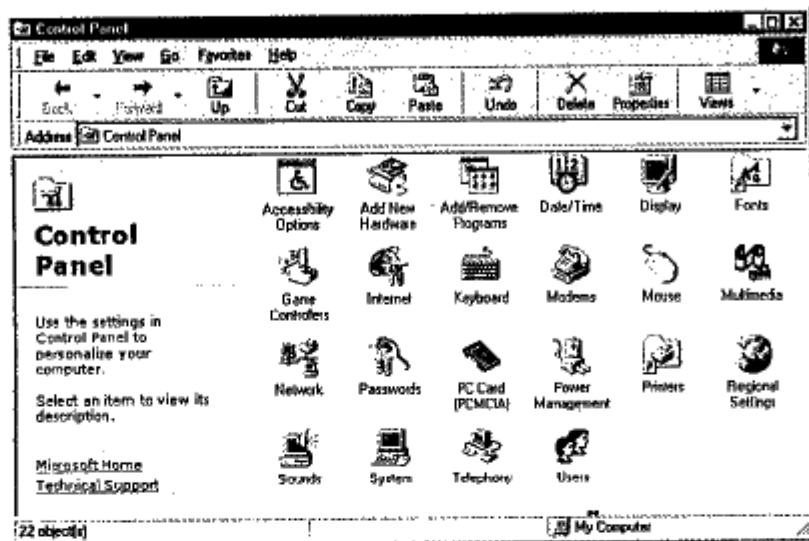

Figure 3-32
1. Click the "Start" button, select "Settings", and then click "Control Panel" as shown in Figure 3-32.